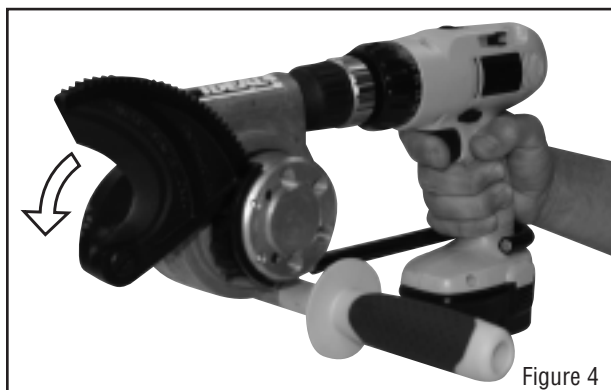

Figure 4
STEP 4: Activate the drill trigger switch to open the moving blade (Figure 4).